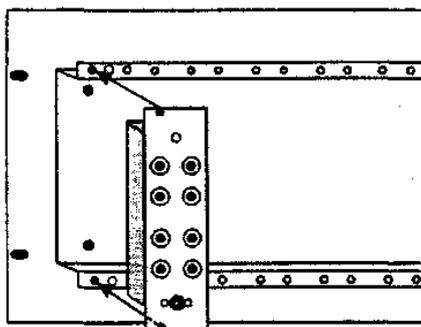

Figure 8b
- Fix the first module with its front screws to the top and bottom of the mounting (see figure 8b).